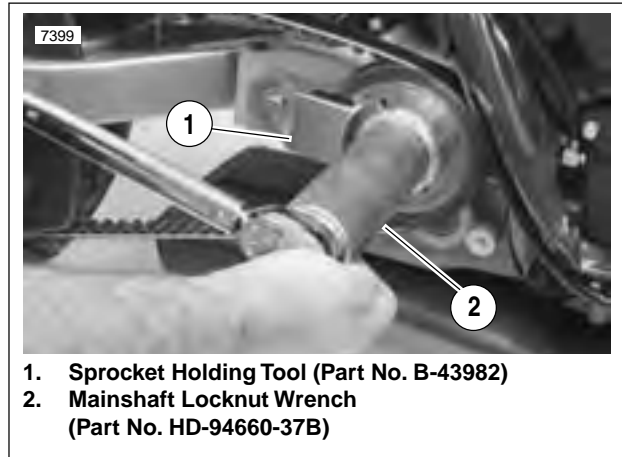

Figure 6-65. Transmission Sprocket Tightening
- See Figure 6-65. Use MAINSHAFT LOCKNUT WRENCH (Part No. HD-94660-37B) and a torque wrench to tighten sprocket nut to 50 ft-lbs (68 Nm) INITIAL torque, ONLY.